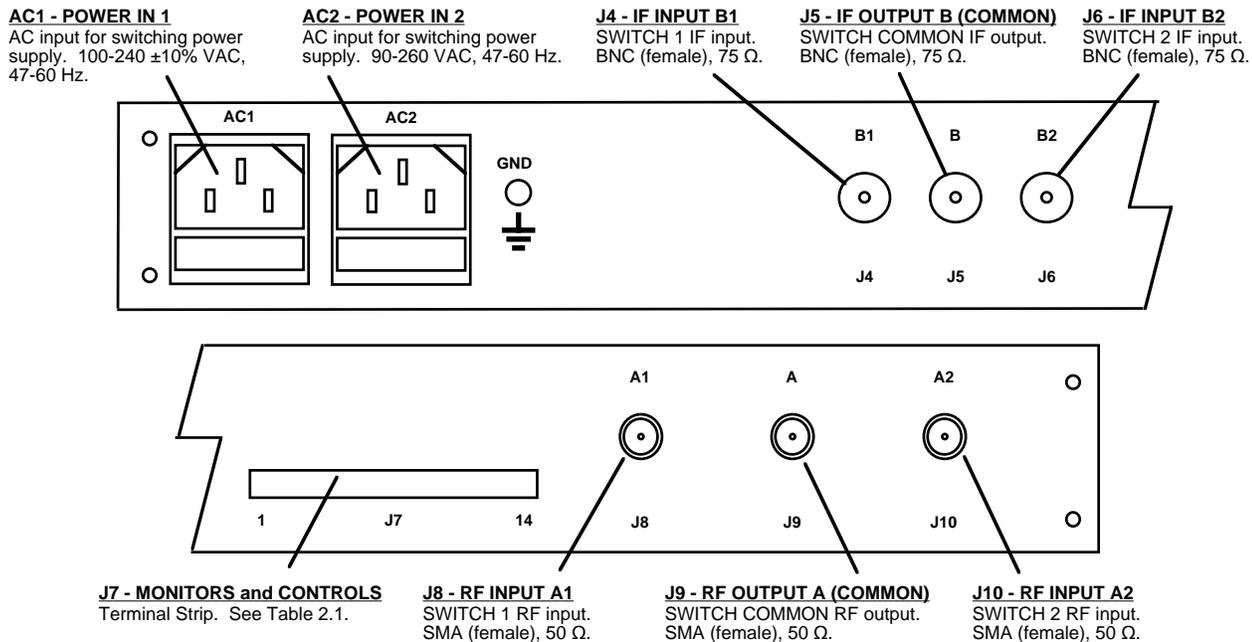

FIGURE 2.2 1582-152 RF Switch Rear Panel Inputs/Outputs
Figure 2.2 shows the input and output connectors on the rear panel.
4. Connect to signals on the MONITORS AND CONTROLS connector, J7, as desired (see Figure 2.2, Table 2.1).